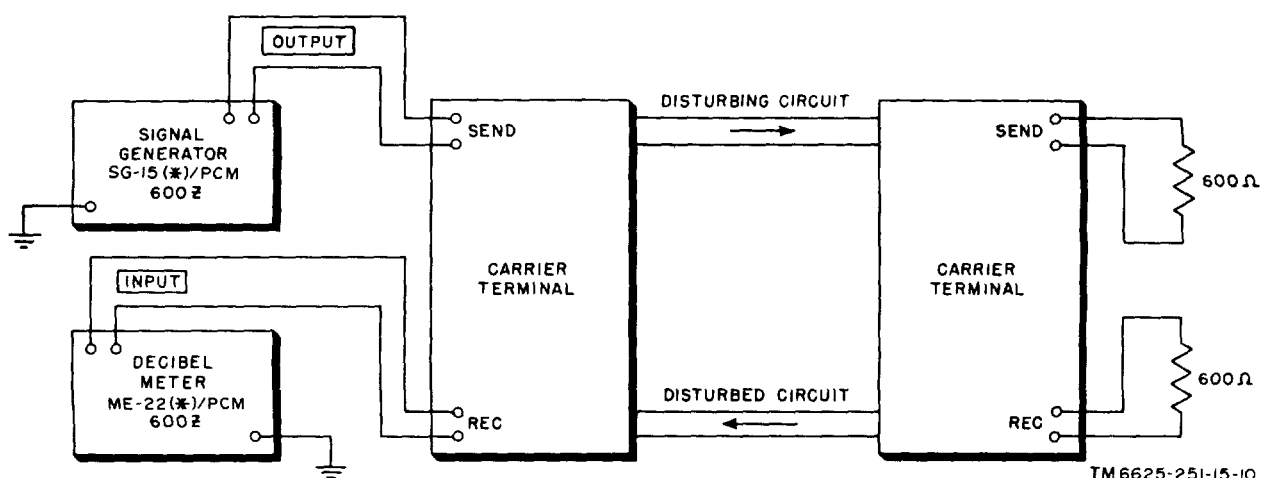

Figure 3-8. Near-end cross talk measurements on carrier circuit, connection diagram.
- b. Connect 600-ohm carbon resistors at the far end of the disturbing and disturbed circuits (fig. 3-8).